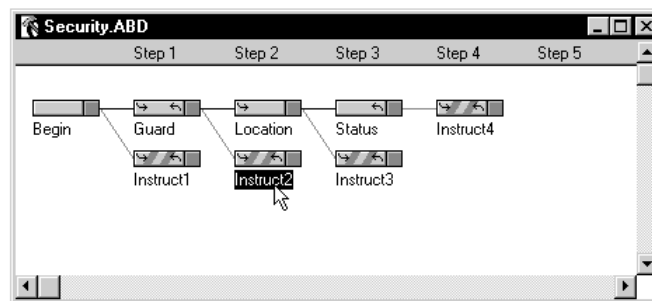

Figure 4-68 “Instruct2” Handler Selected
41. Select the “Instruct2” Handler (Figure 4-68). The “Instruct2” Handler will be stepped to if the user does not scan a valid location bar code. In this example we are assuming the location bar codes are on the door of the location, so we will use **Scan bar code on door.** as our instruction message.